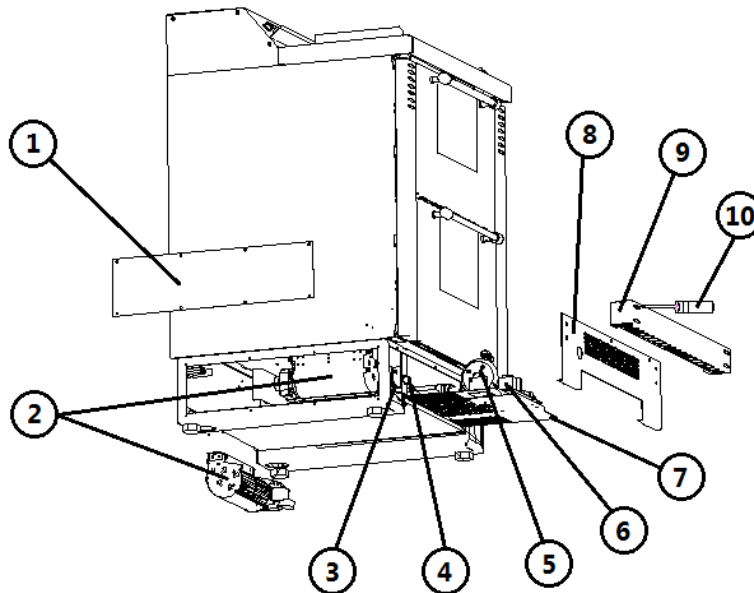

Fig. 36 - Side view
LEGEND Fig. 36 page 32
- Detach the lower control panel by loosening the 4 screws inside the slots (see **Fig. 36 page 32**).
- Loosen the 8 screws on the left and right hand side covers of the base (see **Fig. 36 page 32**).